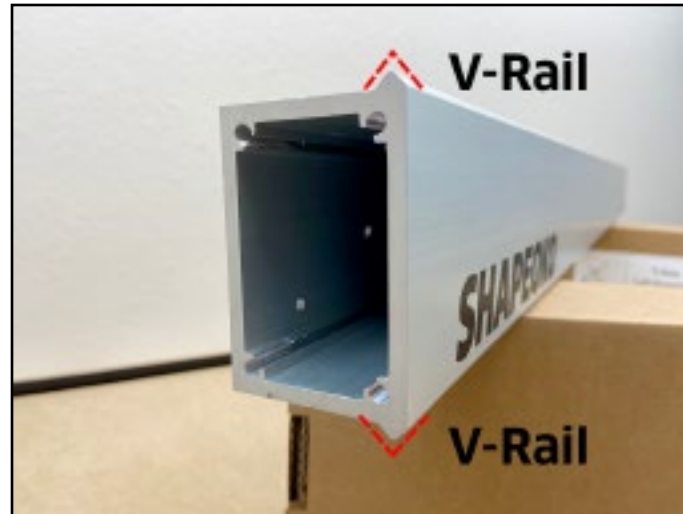

Figure 3-14
NOTE: Each extrusion rail has a pair of V-rails running the entire length of one side. These V-rails serve as linear tracks for the V-wheels, securing the carriages to the gantry and allowing them to glide smoothly. The V-rails will face to the front (X) or inside (Y1 and Y2) of the machine. See **Figure 3-14**.